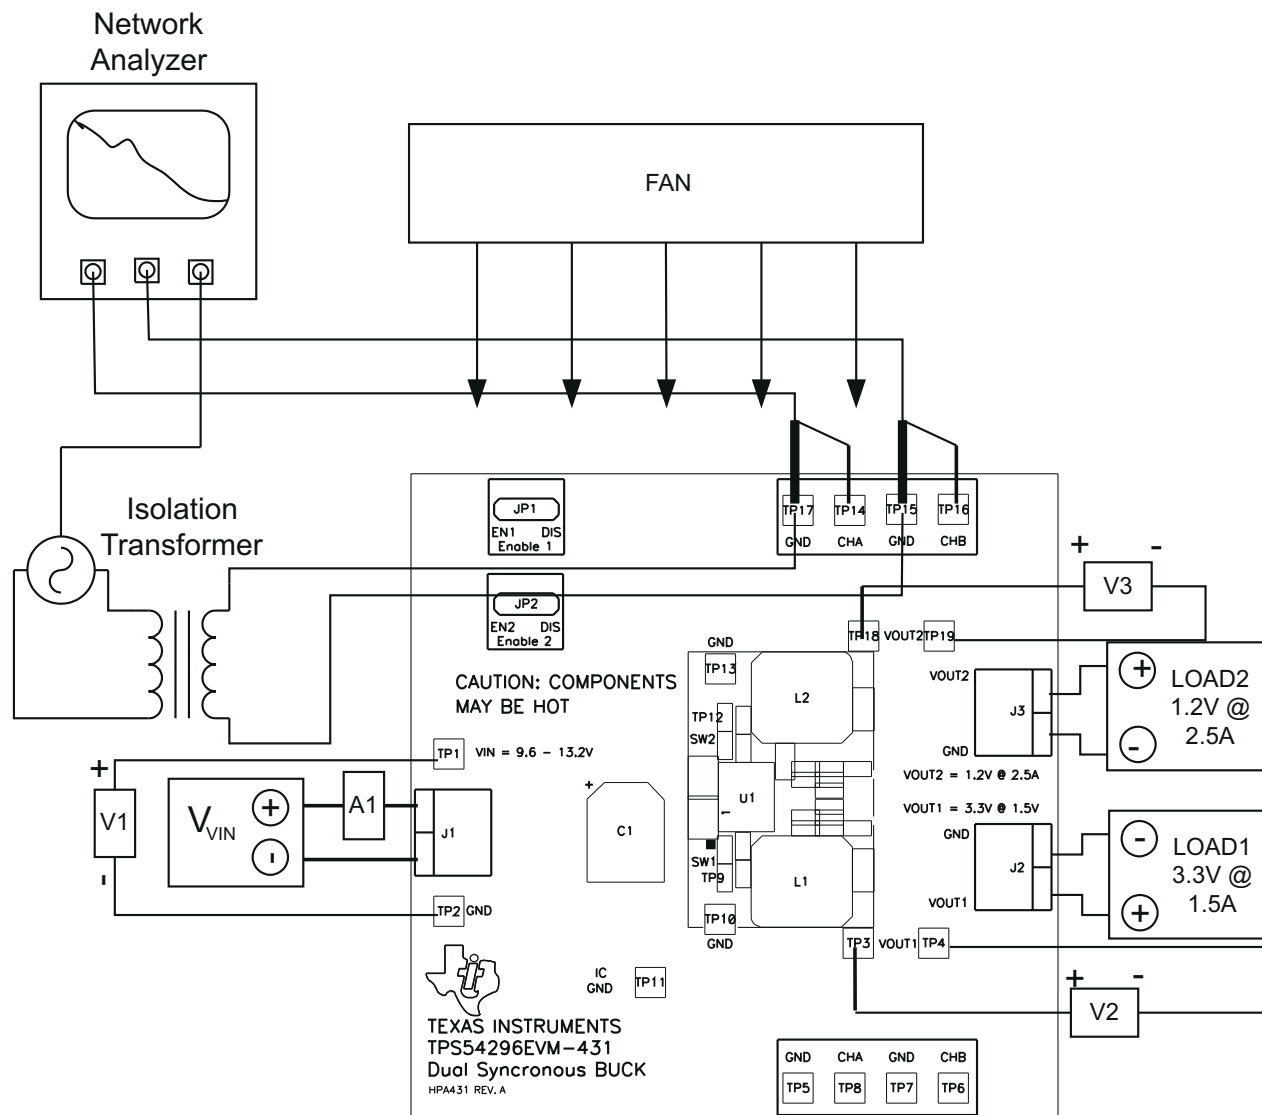

Figure 4-3. Control Loop Measurement Setup
1. Connect a 1-kHz to 1-MHz isolation transformer to TP6 and TP8 as shown in Figure 4-3.
2. Connect the input signal amplitude measurement probe (Channel A) to TP8 as shown in Figure 4-3.
3. Connect output signal amplitude measurement probe (Channel B) to TP6 as shown in Figure 4-3.
4. Connect ground lead of Channel A and Channel B to TP5 and TP7 as shown in Figure 4-3.